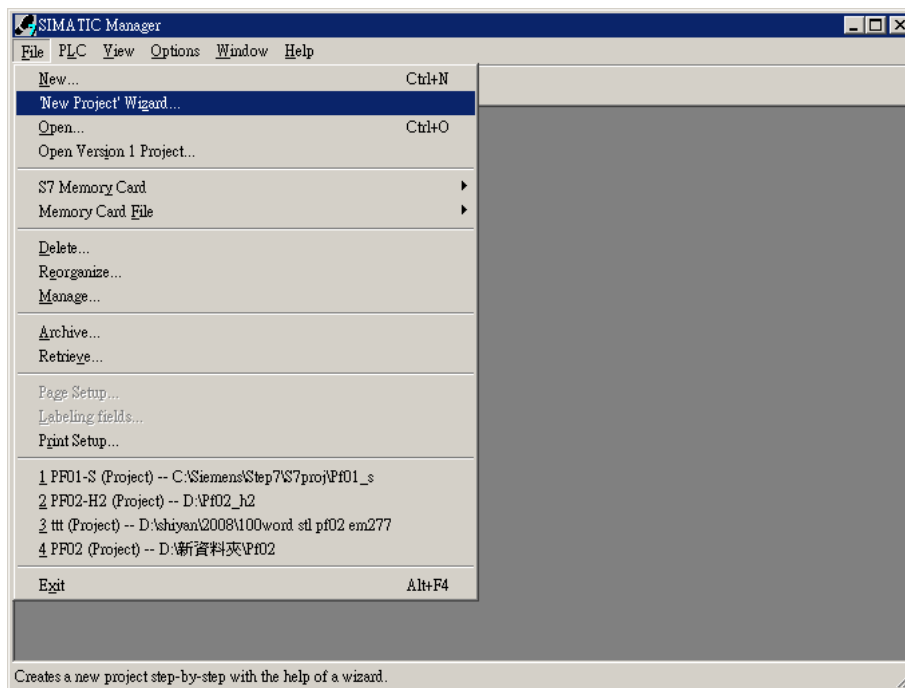

Figure 10-3
2. Select "File" => "New Project Wizard", as Figure 10-3.